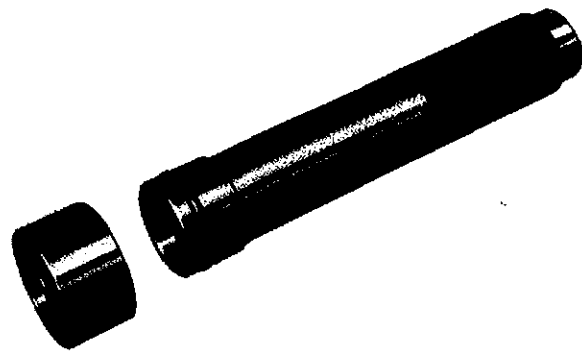
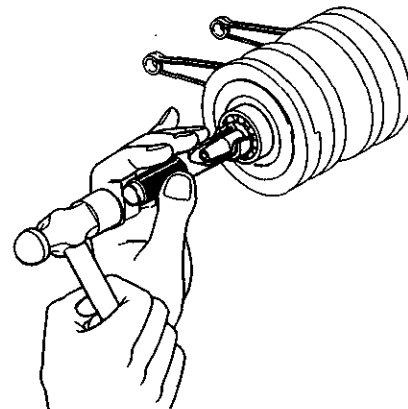

Fig.4
Fig.5
Place inner driver matching the bearing size (Fig.1-⑱~⑳or㉓~㉕) and the handle (Fig.1⑲or㉒) onto the bearing race(Fig.4) and drive in with a hammer.(Fig.5) There are also instances in which the handle only is used to drive in the bearing race depending on the size of the bearing.